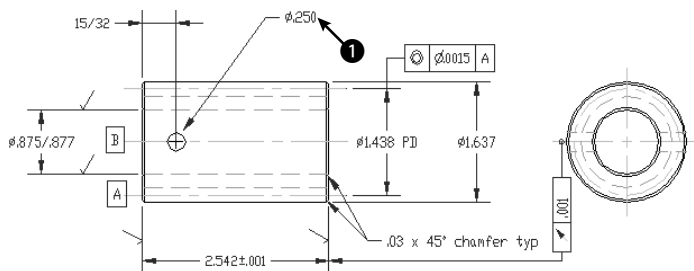

Figure 15-39: A mechanical drawing using geometric tolerances.
2. Save the file as `ab15-06.dwg` in your AutoCAD Bible folder. This drawing of a gear operator is shown in Figure 15-39. The Dim layer is current. If the Dimension toolbar is not visible, right-click any toolbar and choose Dimension.
7. At the Enter tolerance location: prompt, pick ❶ in Figure 15-39 to place the geometric tolerance.